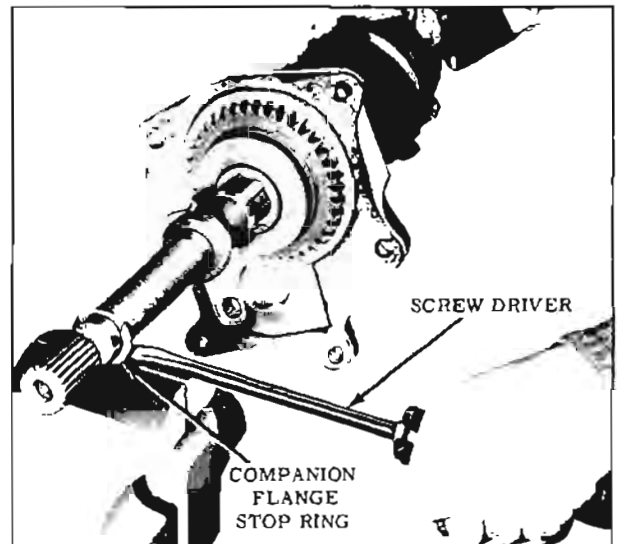

Fig. 11-233 Companion Flange Stop Ring Removal
1. Remove the companion flange stop ring from the main shaft as shown. (Fig. 11-233)